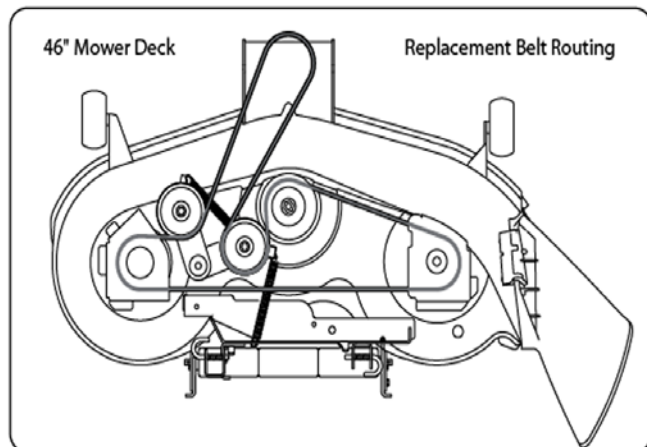

Figure 8.8
- For a 46" deck, See Figure 8.8.